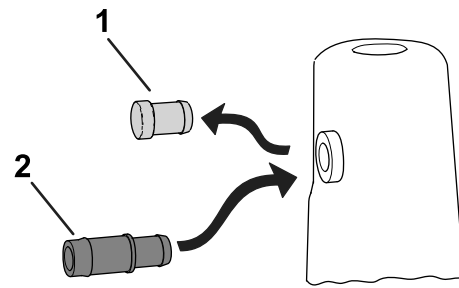

Figure 4
11. Remove the plug from the hydraulic tank (if equipped); refer to Figure 4.
12. Insert the spout into the rubber grommet (Figure 4).